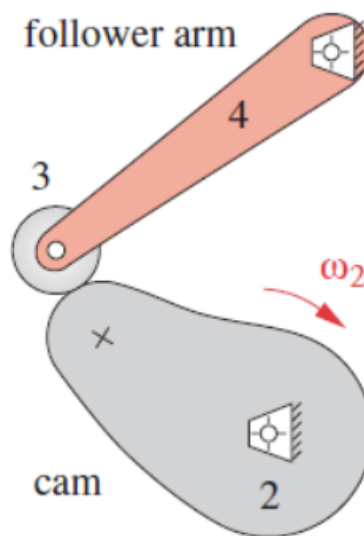

FIGURE P8-2
- *8-4 Figure P8-2 shows a cam and follower. Using graphical methods, find the pressure angle at the position shown.